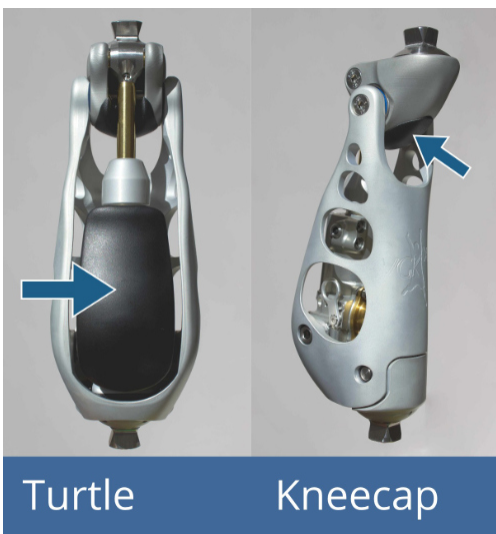
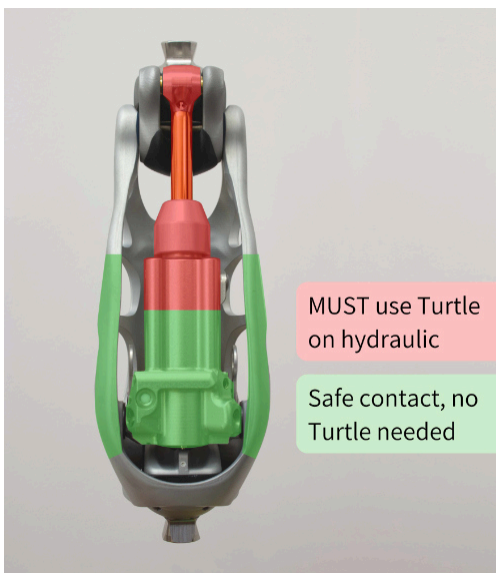

Fig 2.3: There are two rubber parts that support safe and comfortable kneeling, the Turtle and the Kneecap.
Fig 2.4: Ensuring safe contact with the socket, tube, or adapters.
1. It is permissible to kneel on the hydraulic provided the socket/tube comes into contact with the green regions, as indicated in **Fig 2.4**.
2. If the socket/tube rests on the red regions in **Fig 2.4**, the Turtle (see **Fig 2.3**) **MUST** be attached onto the hydraulic at all times. The Turtle assists in bringing the contact point into the green region. Be aware that in some cases, when the socket is quite wide at the end, the Turtle may still be insufficient to ensure safe contact. In this case you can glue material on the back of the rigid section of the Turtle. **DO make sure that eventually the contact point is in the green region in Fig 2.4.**